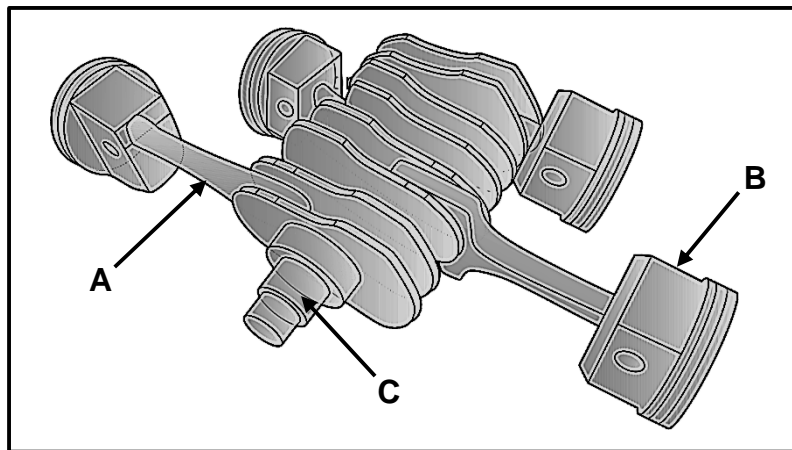

FIGURE 5.5
- 5.5 FIGURE 5.5 below shows a machine used in an automotive workshop. Answer the questions that follow.